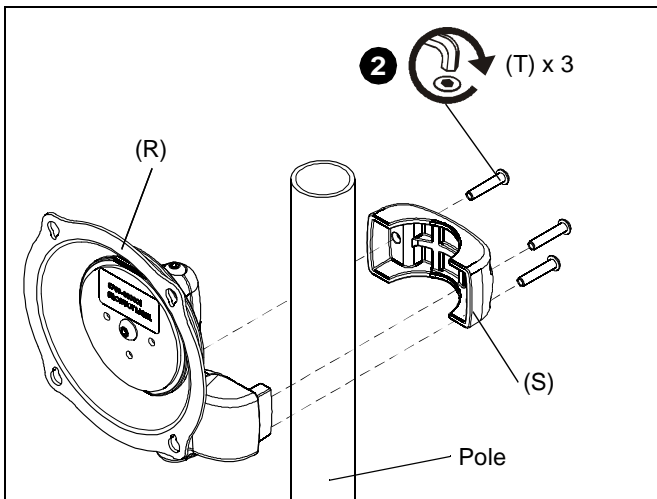

Figure 1
2. Place pole mount (R) against pole, with pole clamp (S) on opposite side of pole (See Figure 1). Using 5/32" hex key (M), loosely assemble with three 1/4-20 x 1-1/4" button head cap screws (T).